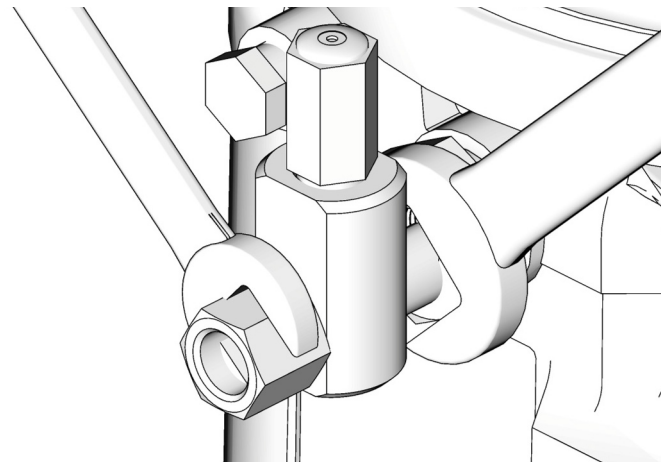

FIG. 11
1. Loosen pump element fitting (FIG. 11).
3. Tighten pump element fitting using two wrenches working in opposite directions (FIG. 11).